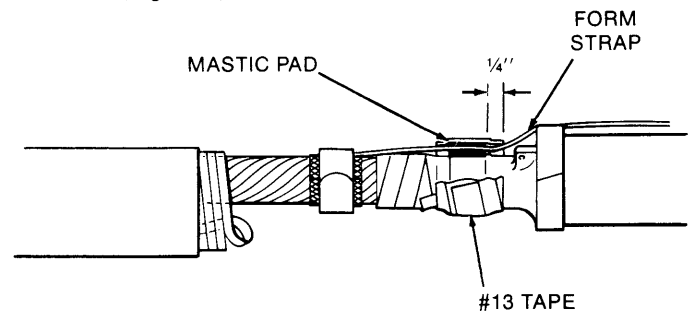

Figure 9
- d. Beginning just beyond splice body, wrap two half-lapped layers of #13 Tape over vinyl mastic pads extending onto splice for approximately 1/4" and returning to starting point. Do this on both ends (Figure 9).